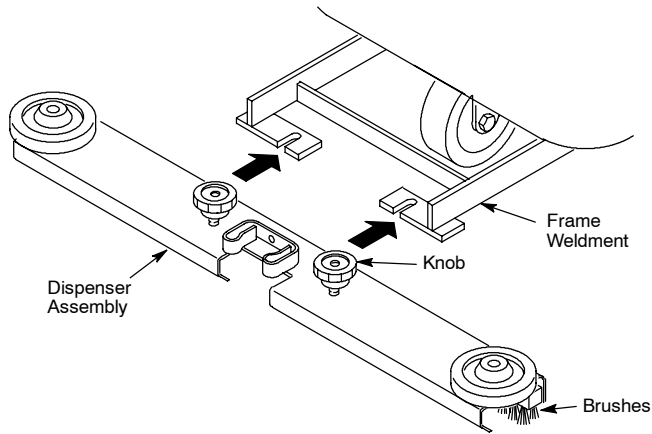

FIG. 5.
- Loosen (2) knobs and attach dispenser assembly to frame weldment, tighten down knobs. Brush side should face towards machine (Figure 5.).